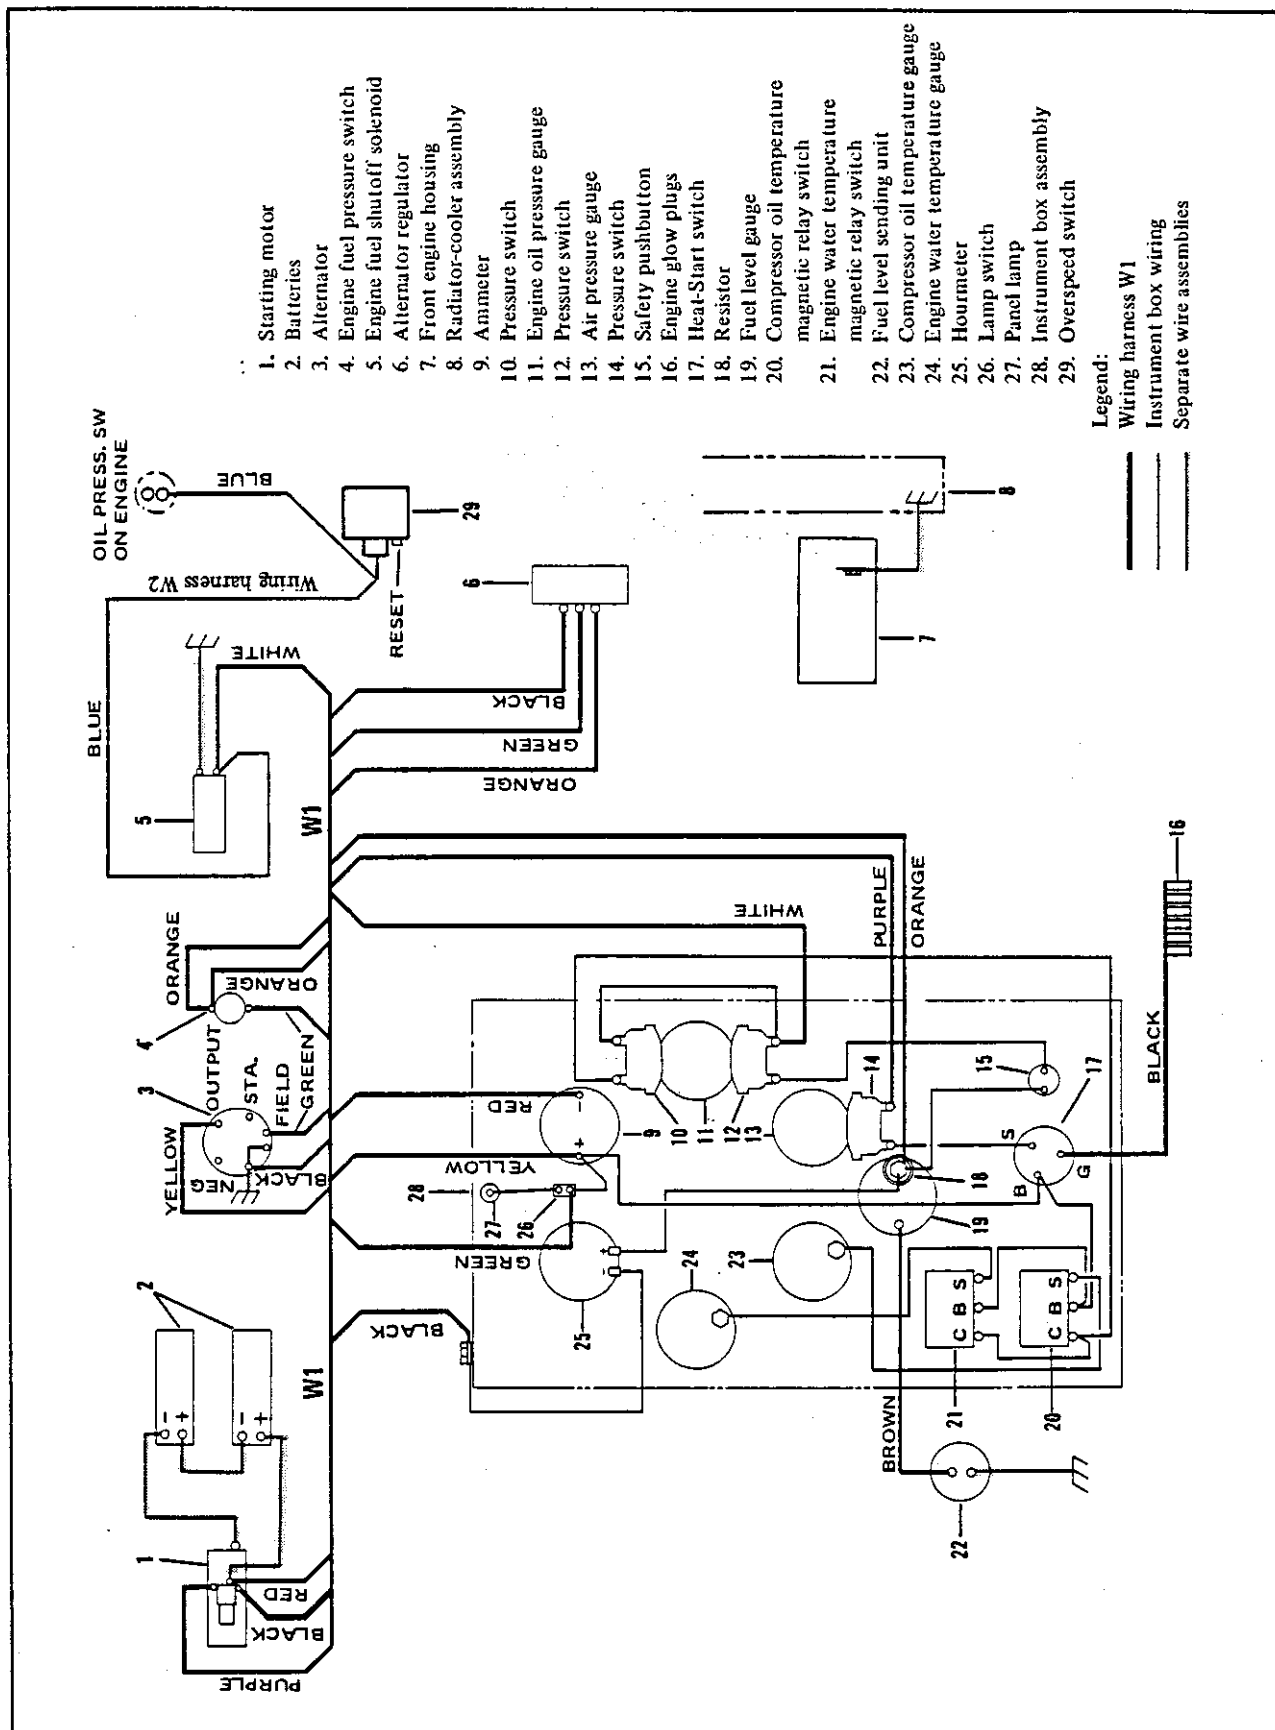

Figure 1-6. Schematic wiring diagram
The alternator regulator opens and closes the field circuit, prevents overcharging of the batteries, prevents damaging high voltage, and maintains the alternator output within its rated limits. The starting motor engages the ring gear on the flywheel and turns the engine crankshaft for starting. Refer to wiring diagram figure 1-6.
1-13. COMPRESSOR UNIT ELECTRICAL GROUP (4, figure 1-2). The unit electrical group consists of the instrument panel wiring and interconnecting wiring harness. Refer to figure 1-6, wiring diagram.
- h. Connect the battery cables, refer to figure 1-6.